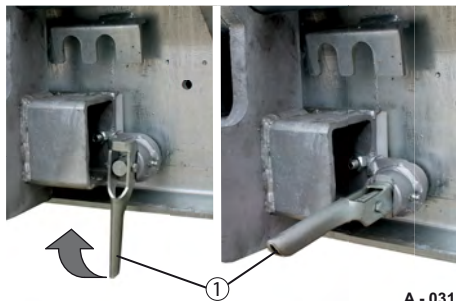

Fig. 83 Unlocking the track width notches
- Pull the spring lever (Fig. 83/1) into the horizontal position.